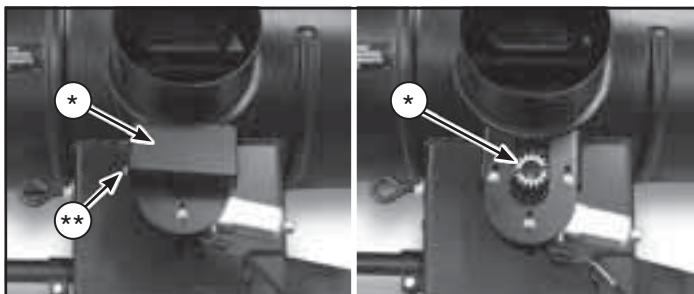

Figure 2
1. Remove gear cover (*, Figure 2) from the snowthrower assembly by removing hex screw (**, Figure 2) and tilting the gear cover to disengage tab on opposite side of box.
2. Remove chute rotator gear (*, Figure 2) from shaft.
- Replace gear cover over rotator gear mechanism and secure with the hex bolt (Refer to left side Figure 2.).